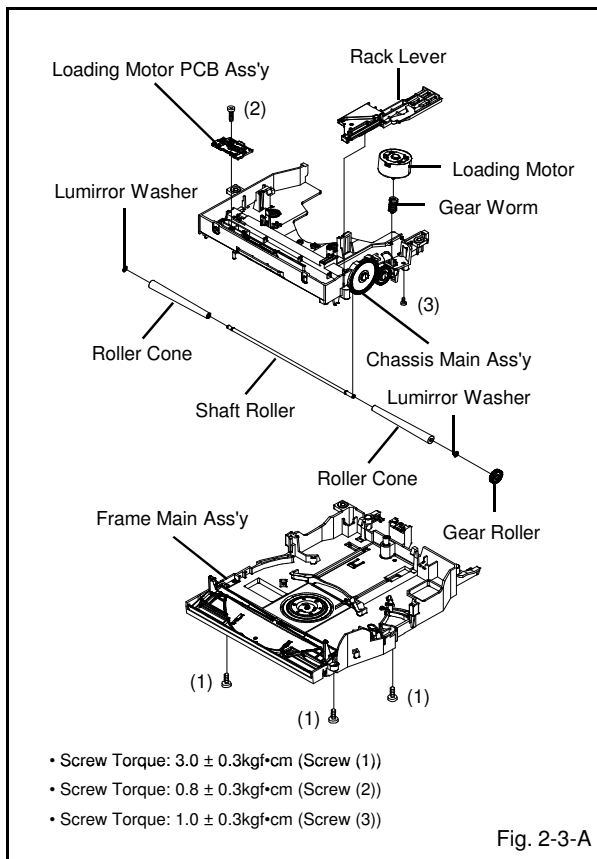

Fig. 2-3-A
1. In case of the Gear Worm installation, check if the value of the Fig. 2-3-B is correct.